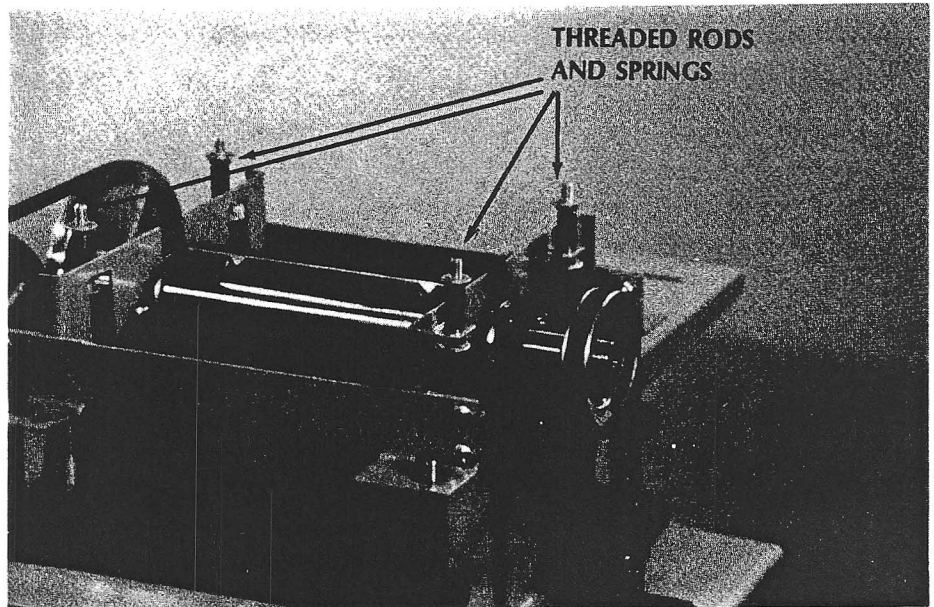

Fig. 13
4. Remove RBZ-205 threaded rods and RB-113 feed roller springs. (fig. 13)